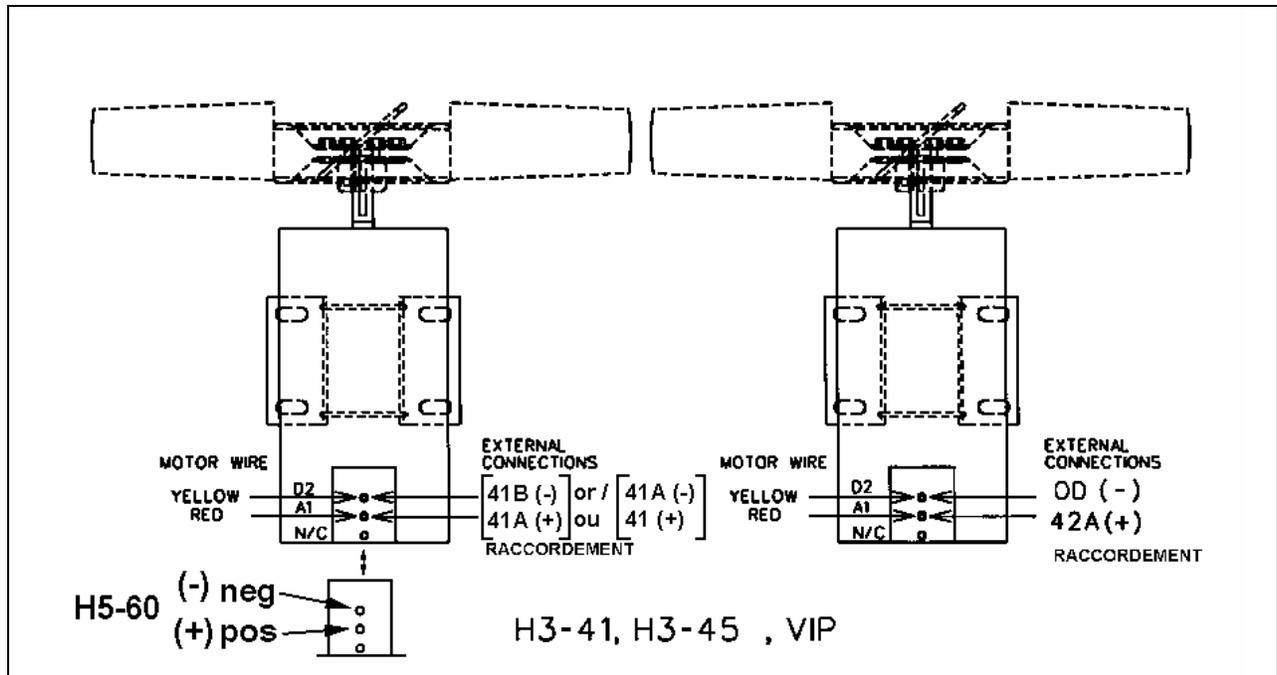

FIGURE 4: CONNECTIONS
4. Reconnect the power supply cables as described in figure 4 or 5 depending on the type of vehicle. Apply a coat of rubber protector Color Guard (Prevost #684013) on the terminals to protect against corrosion.
Note: The negative screw terminal (-) is on the shaft side and the positive screw terminal is the one in the middle (see figure 4).